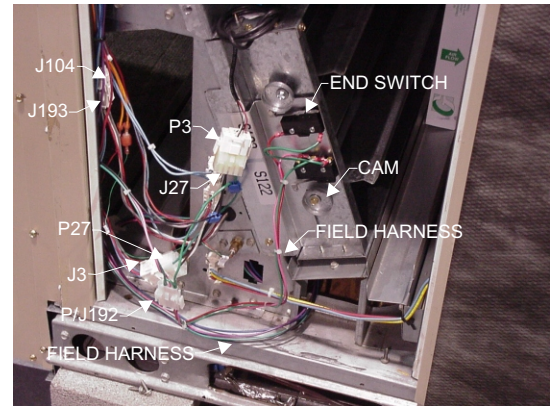

Figure 4
- 6- Install the provided ERS field harness between J3 and P3 by plugging P27 into J3, plugging J27 into P3 harness. **See Figure 4.**
- 7- Plug P193 from ERS field harness into J104, the plug previously pushed through the wall. **See Figure 4.**
- 19- Using wire ties neatly route the wires to clear any moving parts. Final wiring should resemble **Figure 4**.